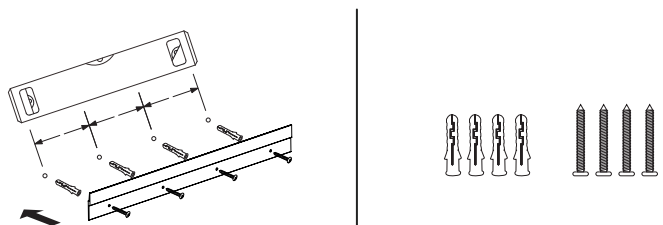

Fig.2
- Knock the expansion plugs into the holes in the wall with a hammer, and then tighten the screws with a screwdriver to fix the bar, and check the level with a spirit level (Fig. 2).